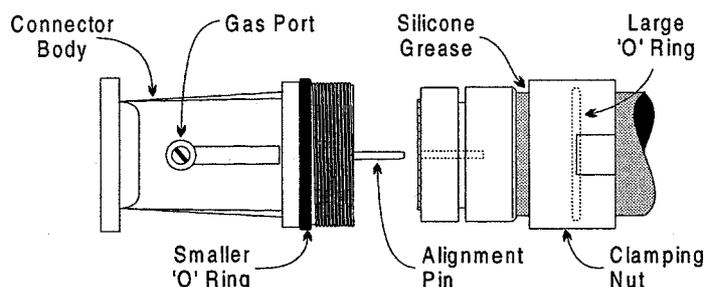

Figure 3.32. Fit Connector
- h. Fit the smaller 'O' ring to the external groove on the connector body without any grease, (see Figure 3.32). Apply a thin film of grease to the rear outer surface of the compression ring (so that large 'O' ring in the clamping nut will slide over the compression ring and seat in the recess).